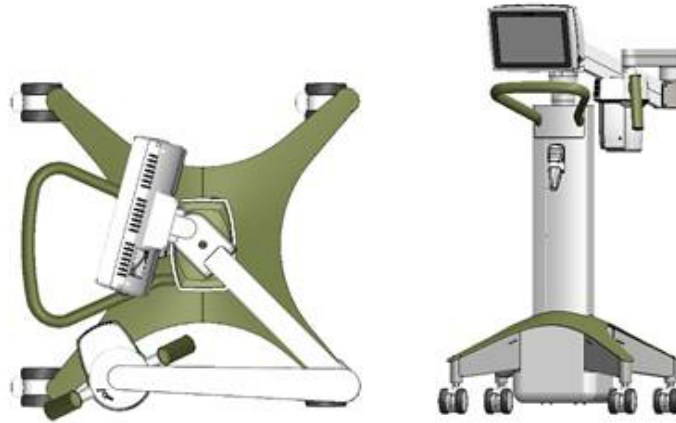

Figure 4-8. System Configuration for Moving and Storage
- Before moving, position the system as shown in Figure 4-8. Lower the articulated arm to its lowest position. Position the optics head close to the cart handle with the elbow protruding at the back. The system can then be easily pushed by the cart handle through the door frame.
- Position the system as shown in Figure 4-8, and then drape the AC power cord with the system for future use.